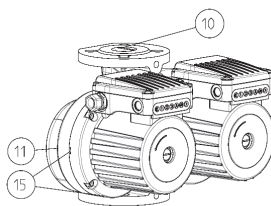

Fig.2
- GHND (basic, auto), GHNMD (basic, auto) pumps have double hydraulic casing (Fig.2 – POS.11), where a tiltable flap is built-in (Fig.2 – POS.10), tilting automatically, depending on the flow direction of one or another pump.